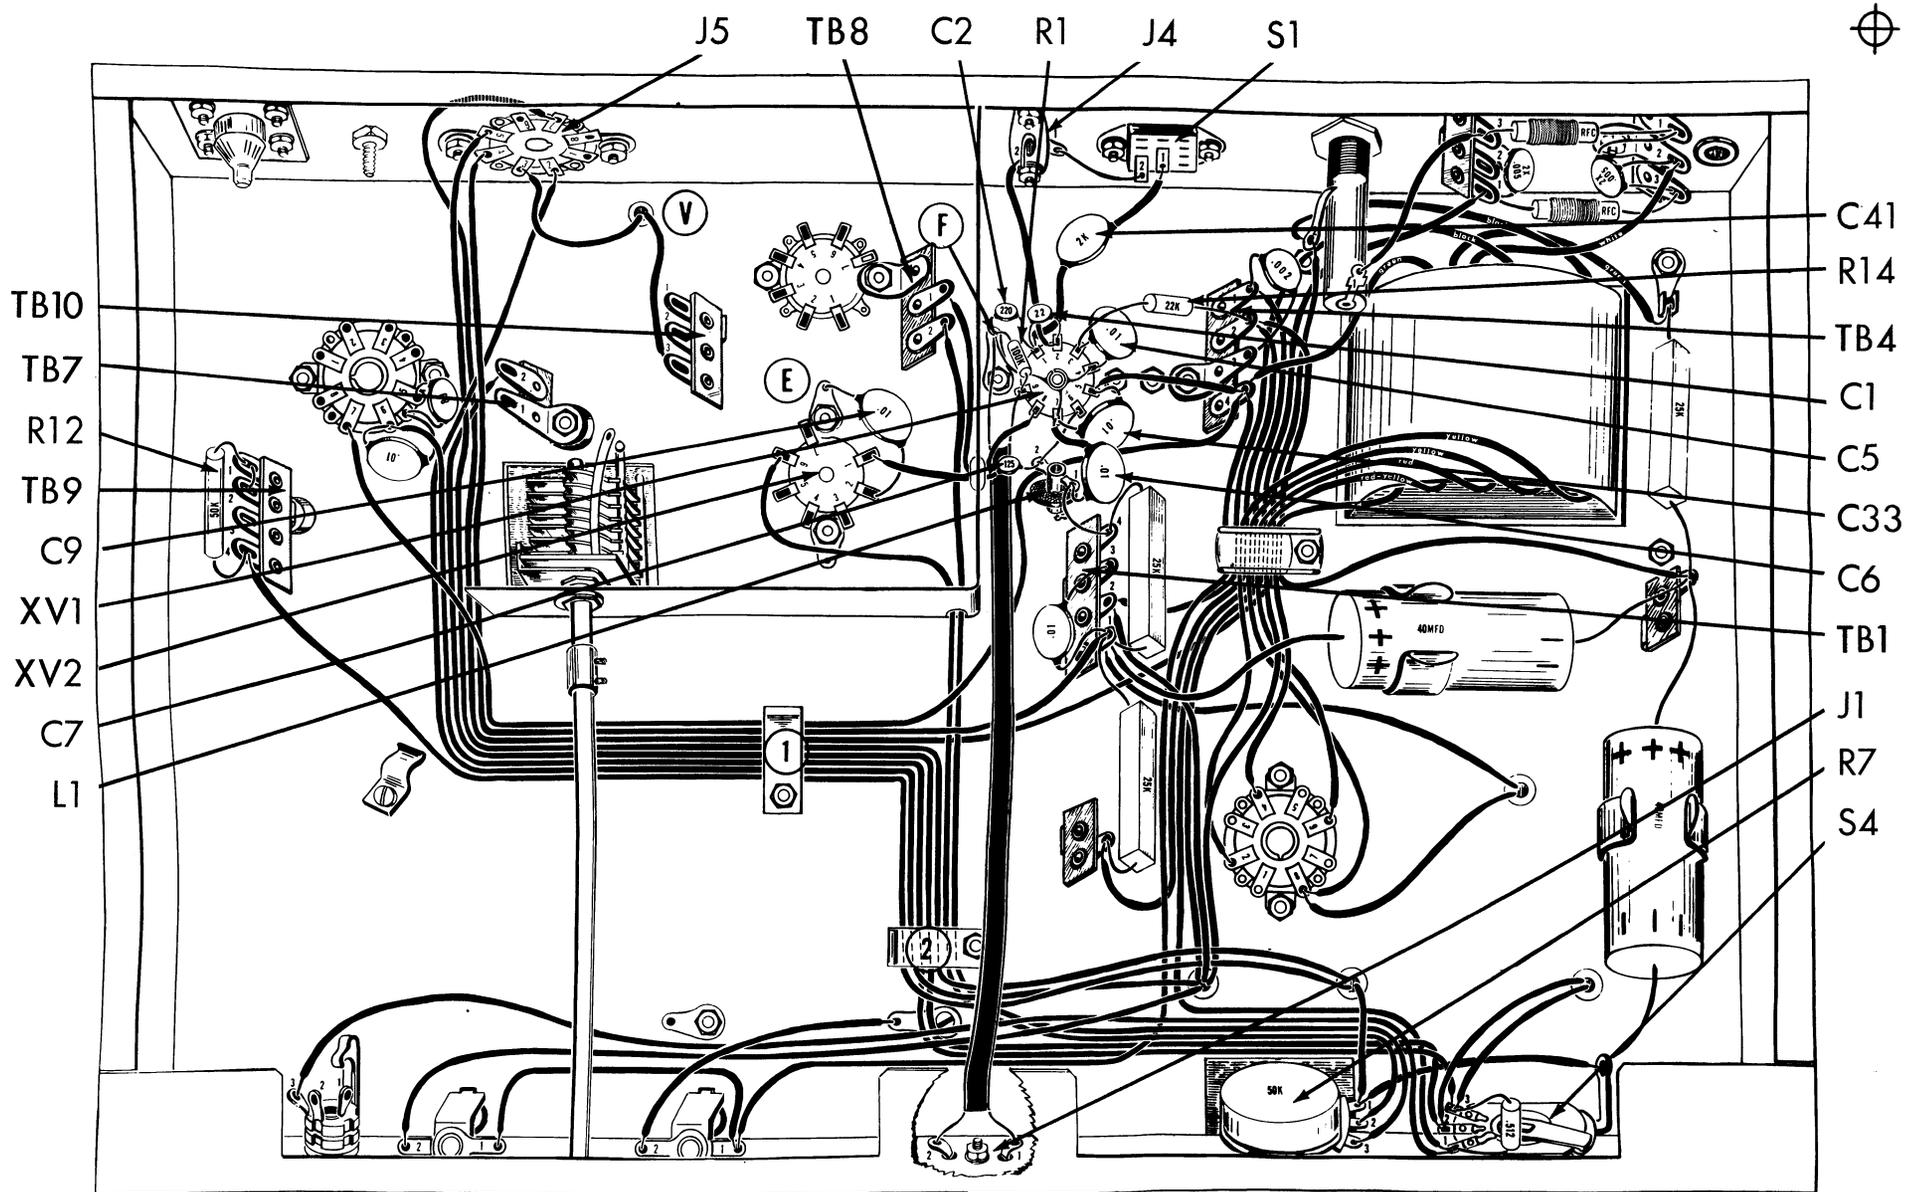

Fig. 6
1. (✓) Fig. 6. L1 is an 18 microhenry choke with a slug adjustment, previously mounted on the chassis next to XV1. The form holding the choke coil should be so oriented that one lug is close to TB1 and the second lug is close to pin 6 of XV1. Designate the lug near TB1 as L1-1 and the lug near XV1 as L1-2. Connect a 3/4" piece of bare wire from TB1-4 (S2) to L1-1 (C). Connect a second 3/4" piece of bare wire from L1-2 (C) to XV1-6 (S).
2. (✓) Fig. 6. Cut both leads on a .01 mfd (10K or 10,000 mmf) disc capacitor, C9, to 3/4". Cover each lead with a 1/2" piece of spaghetti. Connect from XV2-2 (C) to ground lug "E" (C).
- 2a. (✓) Fig. 6. Prepare a piece of 300 ohm twin line wire as follows. Cut an 8 1/2" piece of the dual wire. On one end, cut out the insulation for a 1 1/4" length between the two conductors, without removing the insulation from around the conductor. Then strip back the insulation 1/4" from the end of one of these conductors and connect this to ground lug "F" (C). On the same end of the wire, cut the second conductor to a 3/4" length and strip the insulation back 1/4". Connect this to XV1-9 (C). On the other end of the same piece of dual wire, cut out the insulation for a 3/4" length between the two conductors without removing the insulation from around the conductor. Strip back the insulation 1/4" from the ends of both of these conductors. Without twisting the twin line, connect one of these conductors to J1-1 (S1) and the second conductor to J1-2 (S1). DO NOT apply excess heat or insulation will melt.
3. (✓) Fig. 6. Cut one lead on a 125 mmf disc capacitor, C7, to 1/2". Connect this end to L1-2 (S2). Cut the other lead to 1 3/4". Cover this lead with a 1 1/2" piece of spaghetti. Push this lead through the hole in the side of the bottom shield and connect to XV2-1 (C).
4. (✓) Fig. 6. Cut all leads on two .01 mfd (10K or 10,000 mmf) disc capacitors, C5 and C33, to 1/2". Connect one from XV1-3 (C) to XV1-4 (C). Connect the second from XV1-5 (C) to XV1-7 (C).
5. (✓) Fig. 6. Cut both leads on a .01 mfd (10K or 10,000 mmf) disc capacitor, C6, to 3/4". Connect one lead to L1-1 (S2). Cover the second lead with a 1/2" piece of spaghetti and connect to XV1-7 (C).
6. (✓) Fig. 6. Connect a 1 1/2" piece of green wire from TB4-4 (S4) to XV1-5 (S2).
7. (✓) Fig. 6. Cut both leads on a 22K $\Omega$  (red, red, orange, silver) 1 watt resistor, R14, to 3/4". Connect from TB4-2 (S3) to XV1-3 (S2).
8. (✓) Fig. 6. Cut both leads on a 220 mmf disc capacitor, C2, to 1/2". Connect from XV1-1 (C) to ground lug "F" (C).
9. (✓) Fig. 6. Cut both leads on a .002 mfd (2K or 2000 mmf) disc capacitor, C41, to 1". Cover both leads with a 3/4" piece of spaghetti. Connect from S1-1 (S1) to XV1-1 (C).
10. (✓) Fig. 6. Connect a 3/4" piece of bare wire from S1-2 (S1) to J4-1 (S1).
11. (✓) Fig. 6. Connect a 2 1/4" piece of yellow wire from J4-2 (S1) to XV1-2 (C).
12. (✓) Fig. 6. Connect a 3/4" piece of bare wire from the center pin (C) on XV1 to ground lug "F" (C).
13. (✓) Fig. 6. Cut both leads on a 100K $\Omega$  (brown, black, yellow, silver) resistor, R1, to 1/2". Connect from XV1-9 (S2) to ground lug "F" (S4). DO NOT apply excess heat or twin lead insulation will melt.
14. (✓) Fig. 6. Cut both leads on a 22 mmf disc capacitor, C1, to 1/2". Connect from XV1-2 (S2) to XV1-1 (C).
15. (✓) Fig. 6. Connect one end of a 3" piece of yellow wire to XV1-8 (S1). Run through the hole in the side of the bottom shield and connect the other end to TB8-1 (C).
16. (✓) Fig. 6. Connect a 3/4" piece of bare wire from the center pin (C) on XV1 to XV1-4 (S2).
17. (✓) Fig. 6. Connect a 3/4" piece of bare wire from the center pin (S3) on XV1 to XV1-7 (S3).
18. (✓) Fig. 6. Connect a 3/4" piece of bare wire from TB9-1 (C) to TB9-2 (S1).
19. (✓) Fig. 6. Cut both leads on a 50K $\Omega$ , 10 watt, wire-wound resistor, R12, to 3/4". Connect from TB9-1 (C) to TB9-4 (C).
20. (✓) Fig. 6. Connect the orange lead from hole "V" to TB10-3 (C).
21. (✓) Fig. 6. Connect the red lead from hole "V" to J5-3 (C).